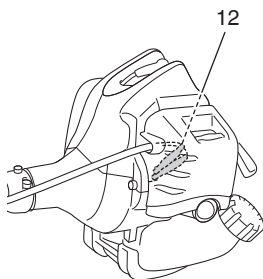

Fig. 6
Store stop cords (12) into the air cleaner cover. (Fig. 6)